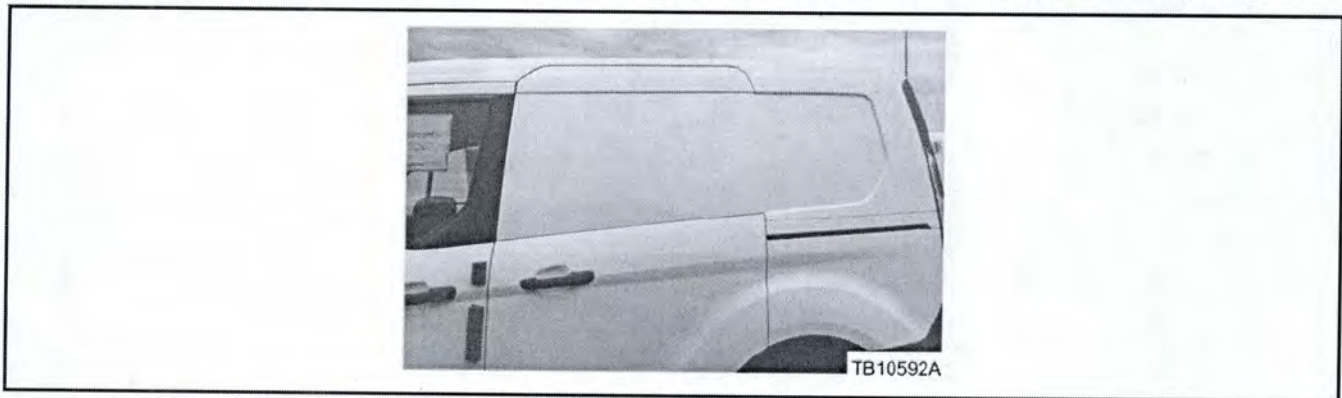

Figure 1 - Article 14-0181
1. Are paint scratches present on the exterior of the left or right sliding doors near the blanking panels? (Figure 1)